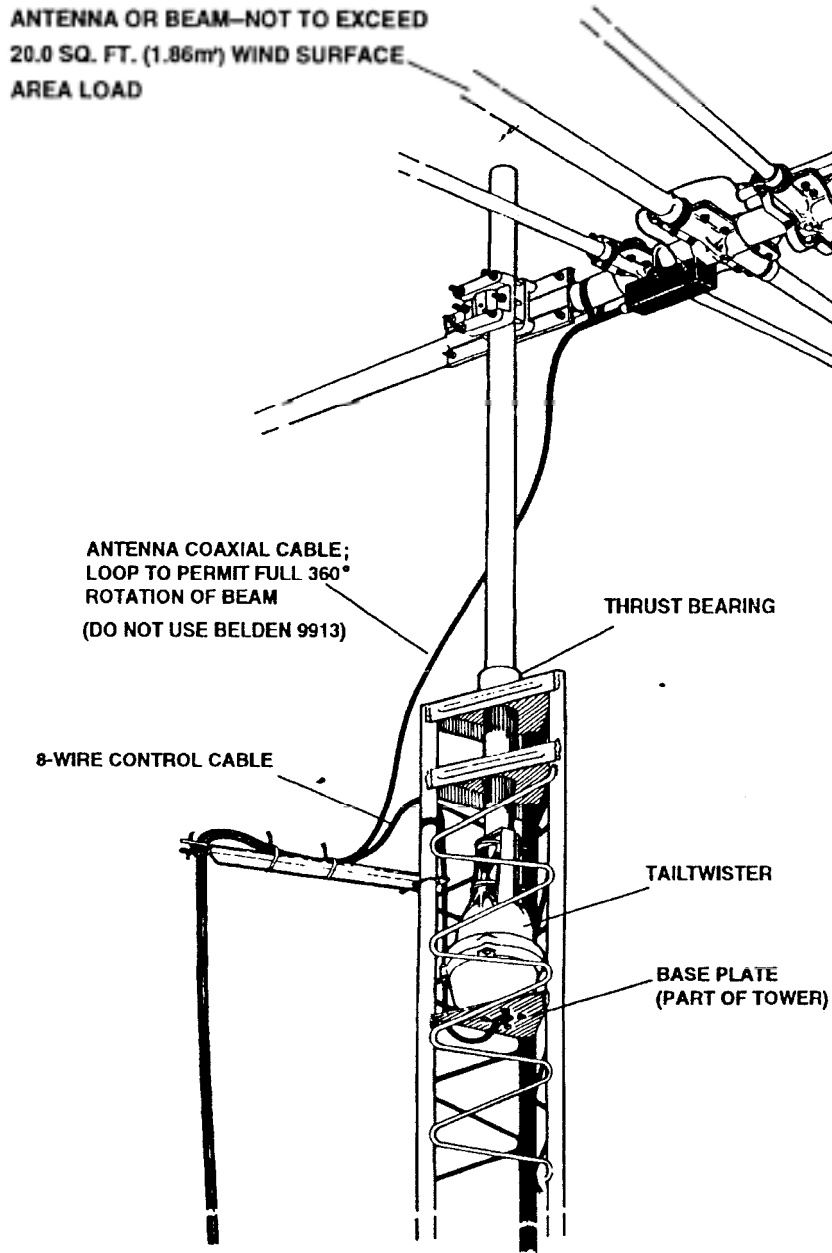
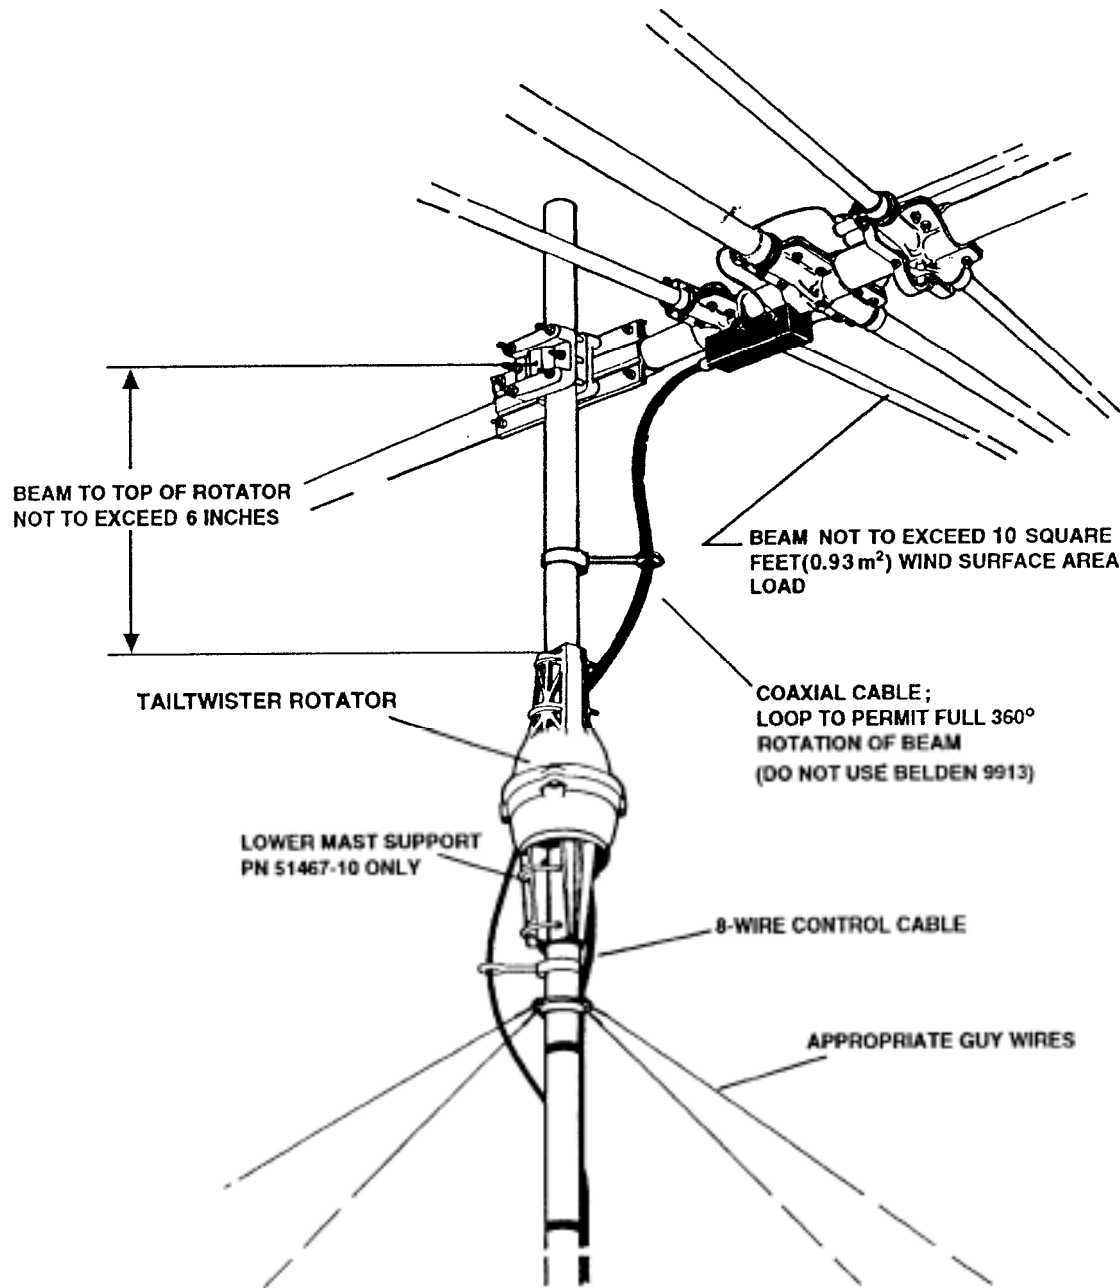

Figure 3
Figure 5
The optional heavy-duty lower mast support kit must be used if you elect to use a mast mount (see Figures 5 and 9). The part number for this kit is 51467 10. When using the lower mast support, the antenna size is restricted to 10 square feet of wind area. The "inside tower mount" configuration is recommended (see Figure 3).
There are three general types of rotator installations (see Figures 3, 4, and 5).
The rotator is mounted to a vertical mast, see Figures 5 and 9, by means of four (4) bolts and the optional lower mast support, PIN 5146710. Use the following procedure:
1. Attach the rotator to the lower mast support by means of four (4) bolts, nuts and lockwashers. Tighten the four (4) bolts. Attach this assembly to the top of the mast as shown in Figure 5. Tighten all bolts securely.